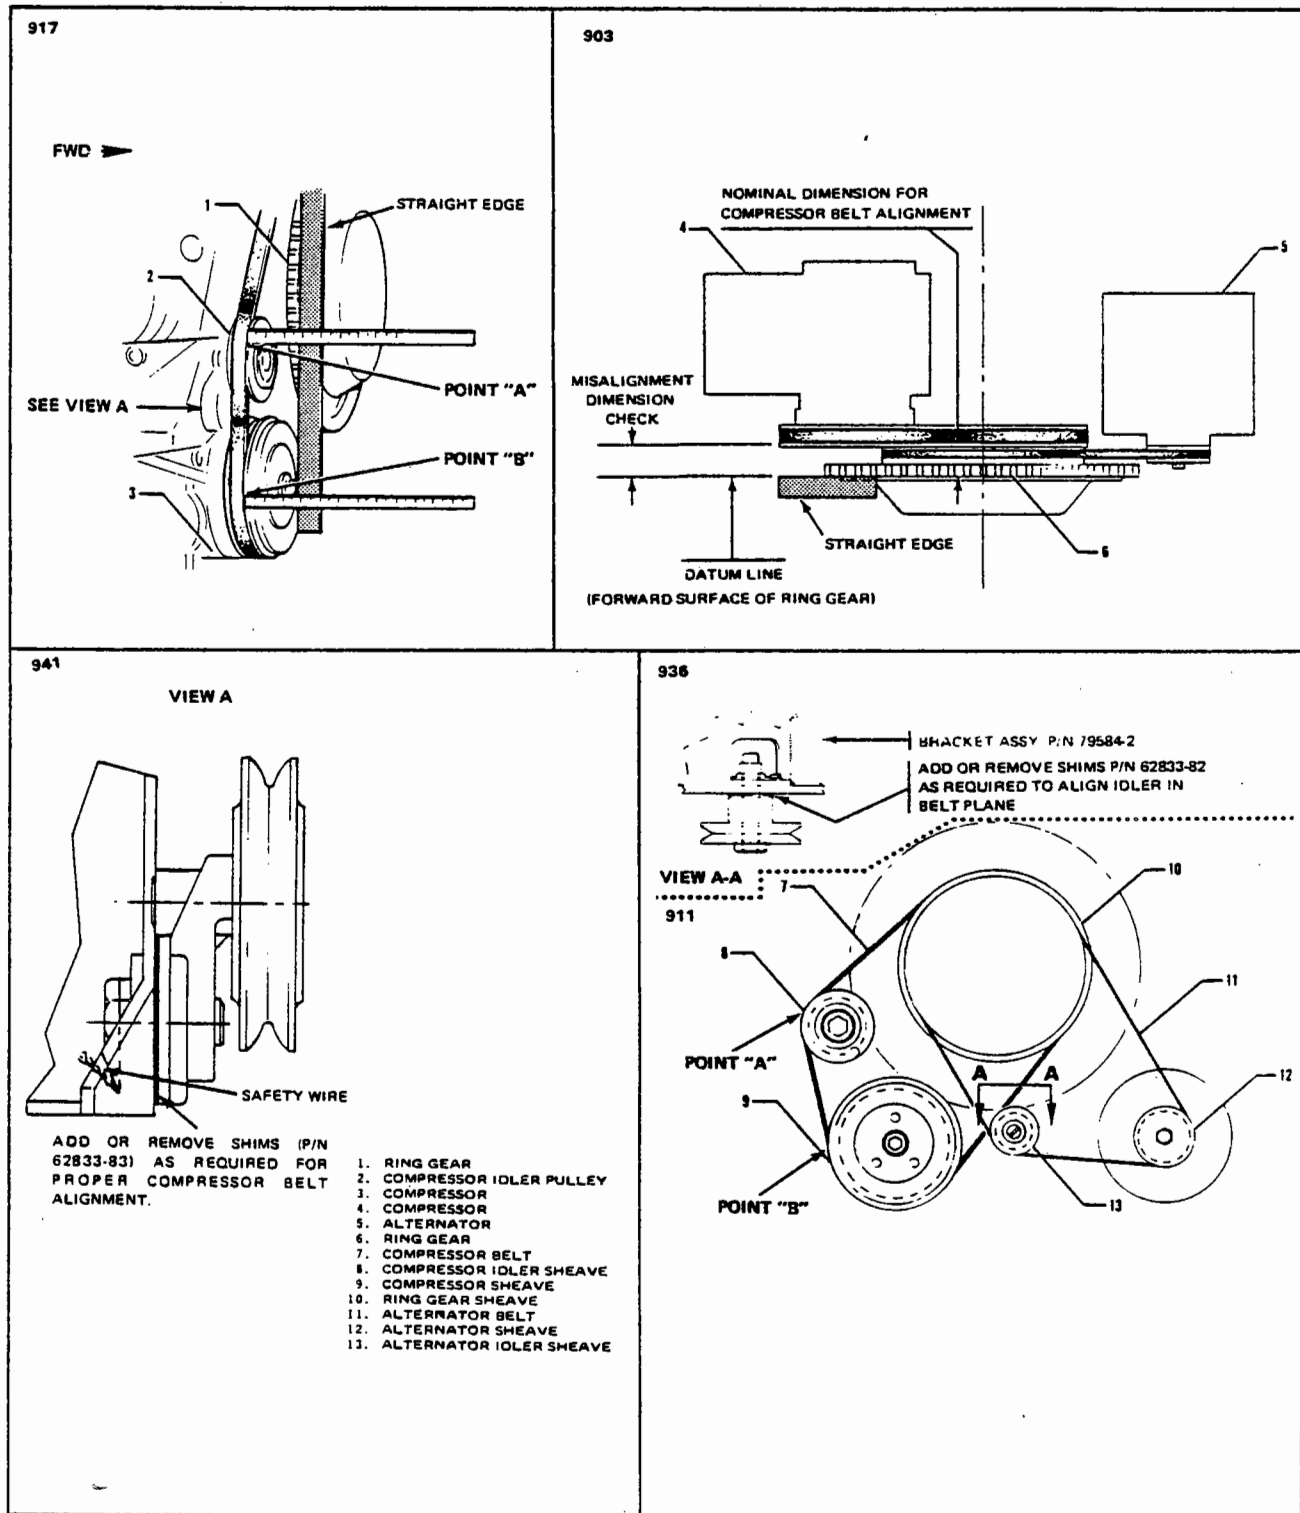

Figure 21-12. Compressor and Alternator Belt Installation
REPLACEMENT OF COMPRESSOR DRIVE BELT. (Refer to Figure 21-12.)
4. Route the belt to the proper pulley sheave as shown in Figure 21-12.
B. Obtain a basic measurement from the top of the ring gear by measuring the width of the starter ring gear plus the dimension from the forward machined surface of the ring gear to the forward edge of the compressor drive belt. (Refer to Figure 21-12.)
6. Compressor Belt Alignment: (Refer to Figure 21-12.)
7. Alternator Belt Alignment: (Refer to Figure 21-12.)